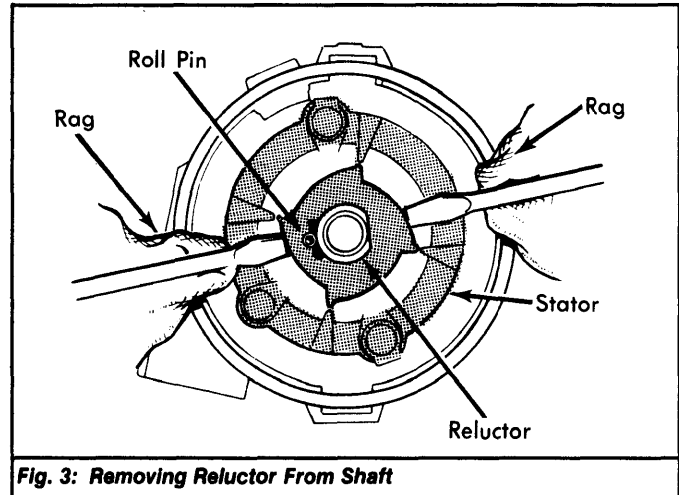

Fig. 3: Removing Reluctor From Shaft
1) Carefully pry upward on reluctor by using 2 screwdrivers, cushioned with rags to prevent damage to distributor housing. See Fig. 3. Use care not to damage reluctor or stator.